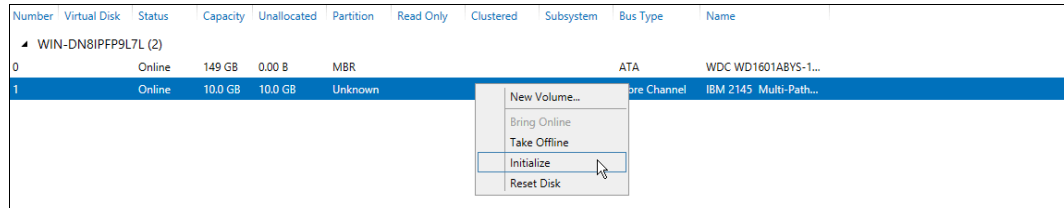

Figure 5-34 Initializing the disk
- The next step is to initialize the disk. To do this, right-click the disk and click **Initialize**, as shown in Figure 5-34.